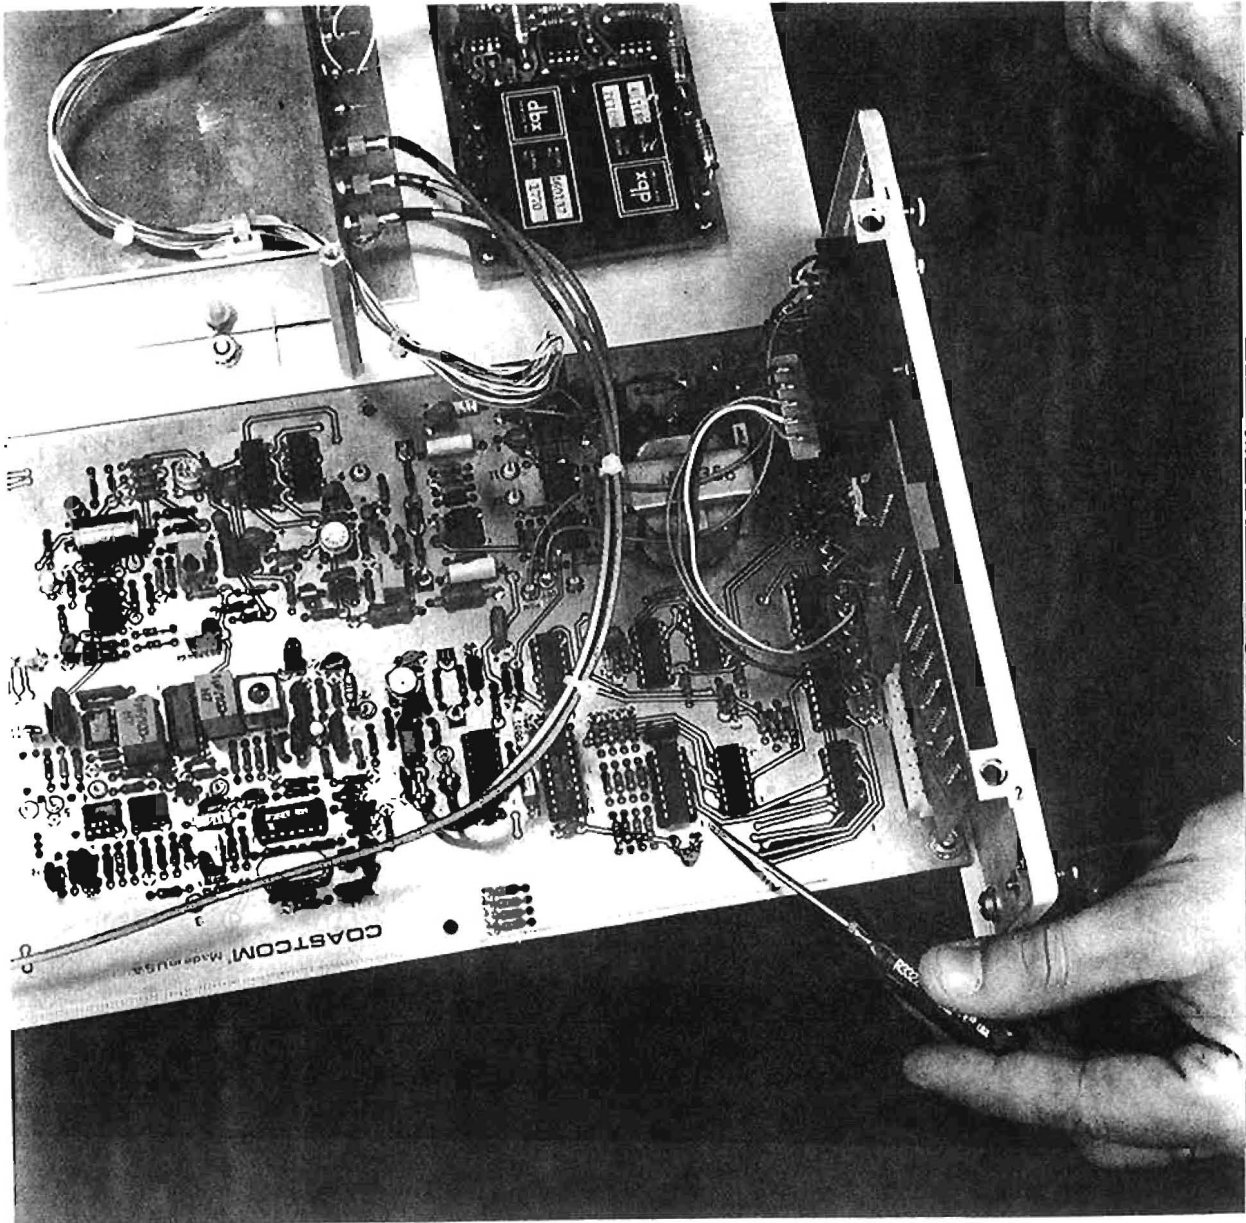

FIGURE NO. 5
- 5a) Remove the new integrated circuit U5 from its anti-static protection and insert it into the empty socket. Make sure that the new integrated circuit is oriented the same way as the integrated circuit that was removed. Refer to figure No. 5.